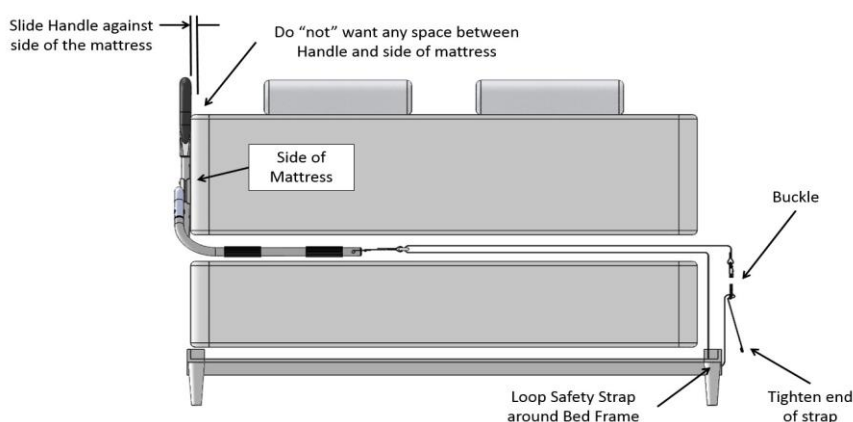

FIGURE 6
6. It is important that the Bedrail is secured to the Side of the mattress. The Safety Strap is looped around the Bed Frame on the opposite side of the bed, buckled, and tightened as show in Figure 6.